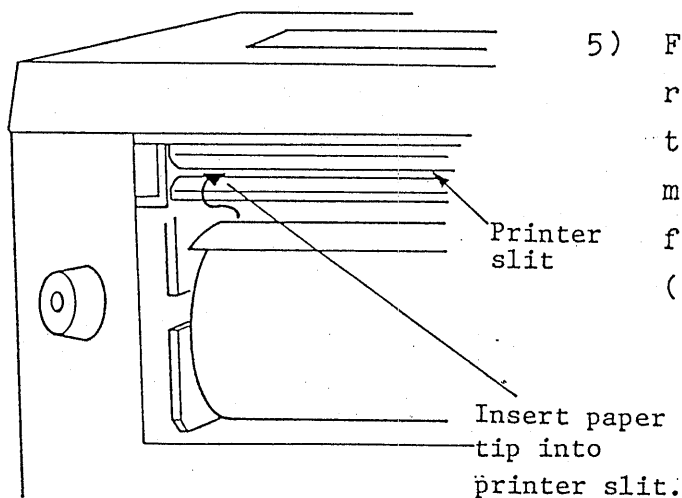

Fig. 14.5
- 5) Feed a sufficient amount of roll paper tip into the printer's slot. The insertion is made easy by holding the folded portion at both ends (Fig. 14.5).